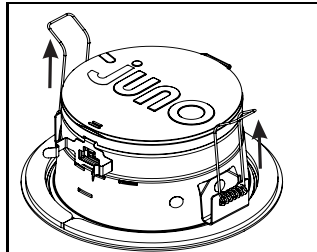

Figure 9
Step 7. Make sure the cap over the CCT and lumen select switches is closed. Push springs to upright position (Fig. 9), and slide through ceiling cutout. The ends of the springs will catch the edge of the hole and pull the fixture into position.